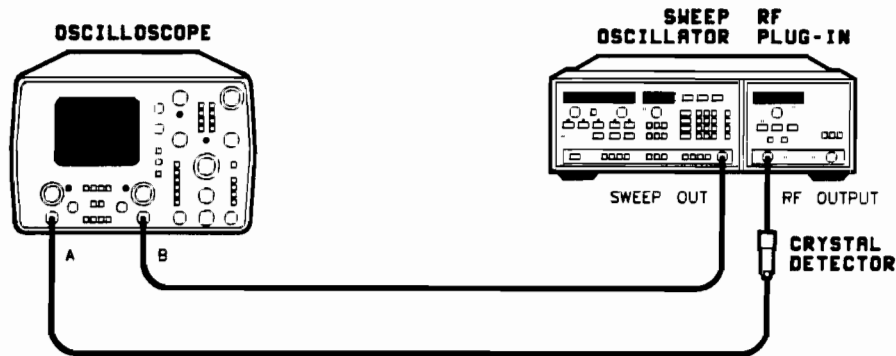

Figure 4-2. Swept Power Measurement Test Setup
1. Connect the equipment as shown in Figure 4-2.